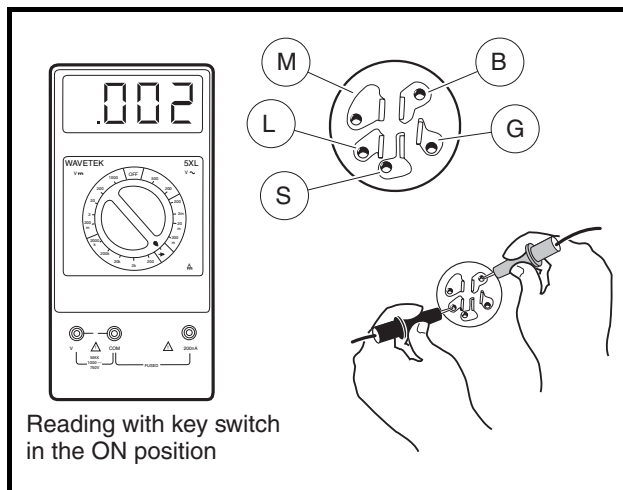
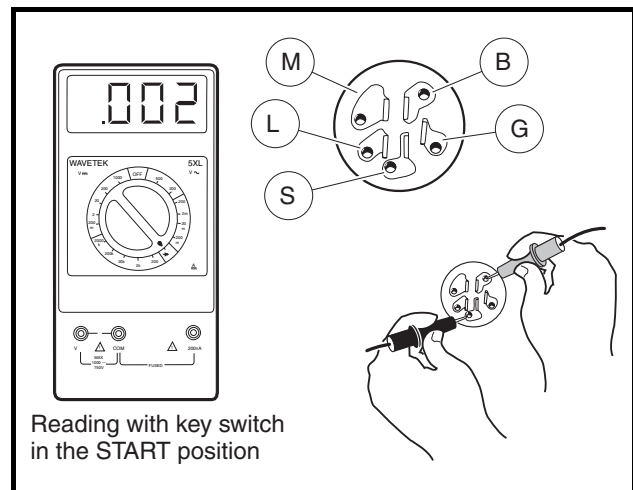

Figure 11-27 Key Switch Test – Accessory Terminal
Figure 11-28 Key Switch Test – Starter Circuit
5. Insert the key and turn the key to ON. Place the red (+) probe of the multimeter on the (B) terminal and the black (–) probe on the (L) terminal of the key switch. The reading should be continuity. If the reading is incorrect, replace the key switch (**Figure 11-27, Page 11-25**). See **Key Switch Removal, Section 12, Page 12-14.**
6. With the key still in the ON position, place the red (+) probe of the multimeter on the (B) terminal and the black (–) probe on the (S) terminal of the key switch. The reading should show no continuity. If the reading is incorrect, replace the key switch. See **Key Switch Removal, Section 12, Page 12-14.** If the reading is correct, leave the probes connected and proceed to the next step.
7. Insert the key and hold the key in the START position. The reading should be continuity. If the reading is incorrect, replace the key switch (**Figure 11-28, Page 11-25**). With the red (+) probe of the multimeter on the (B) terminal and the black (–) probe on the (L) terminal of the key switch, the reading should be continuity. If either reading is incorrect, replace the key switch. See **Key Switch Removal, Section 12, Page 12-14.**
5. Insert the key and turn the switch to the ON position. With the multimeter set to 200 ohms, place the red (+) probe of the multimeter on the (B) terminal and the black (–) probe on the (L) terminal of the key switch (**Figure 11-27, Page 11-25**). The reading should be continuity. If the reading is incorrect, replace the key switch. **See Key Switch Removal, Section 12, Page 12-14.**